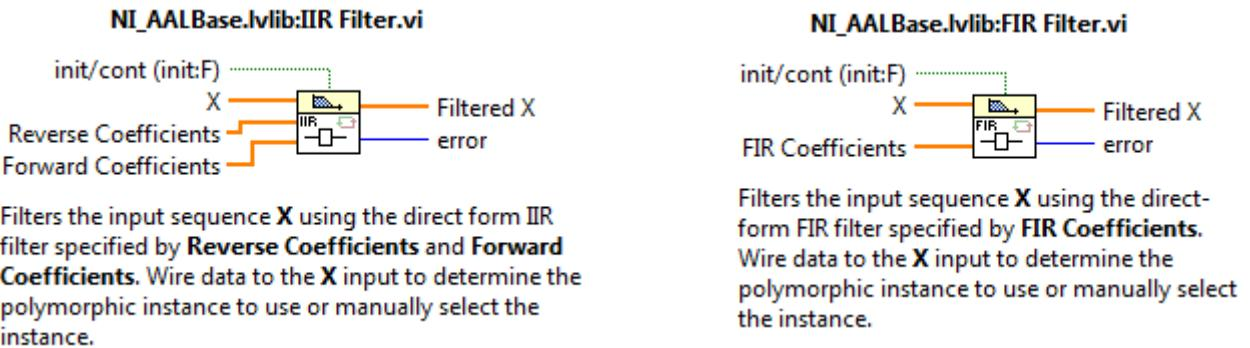

Fig. 4. IIR and FIR filters.
- You can use **IIR Filter.vi** and **FIR Filter.vi** functions shown in Fig. 4, respectively.